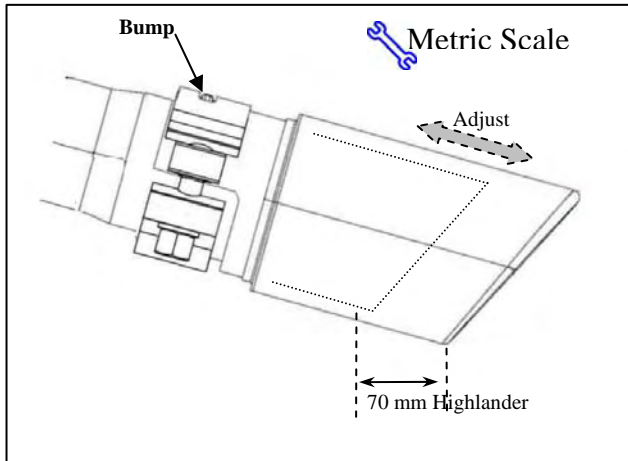

Fig. 1-4
- (2) Continue sliding the exhaust tip over the tail pipe until there is approximately (70 mm –Highlander) or approximately distance between the end of the tail pipe and the end of the exhaust tip as shown. (Fig. 1-4)